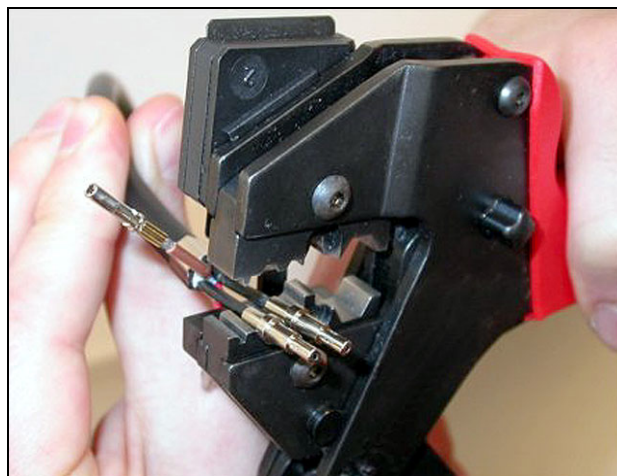

figure 45.24: Crimping ferrules (2)
- 25 Put both ferrules in the crimping tool (tool 3, refer to figure 45.24).